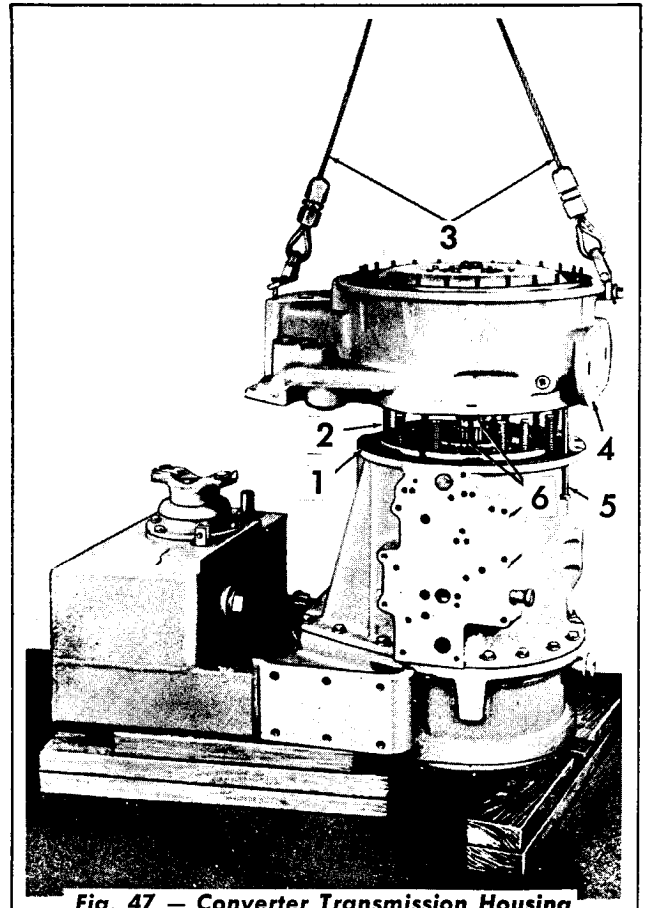

Fig. 47 — Converter Transmission Housing Alignment
11. Install the gasket (Fig. 47). Install the twelve